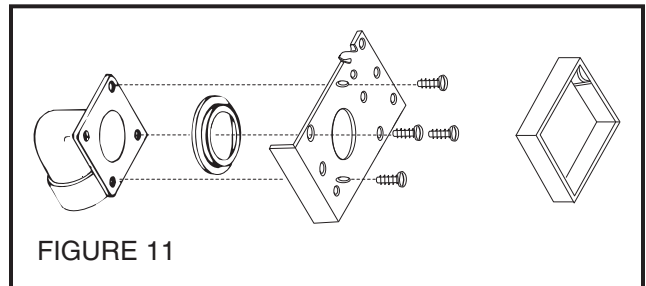

FIGURE 11
4. Refer to Figure 11. Remove cardboard from plaster guard frame. Using four (4) provided screws, attach the appropriate flanged fitting and inlet seal to back of inlet.